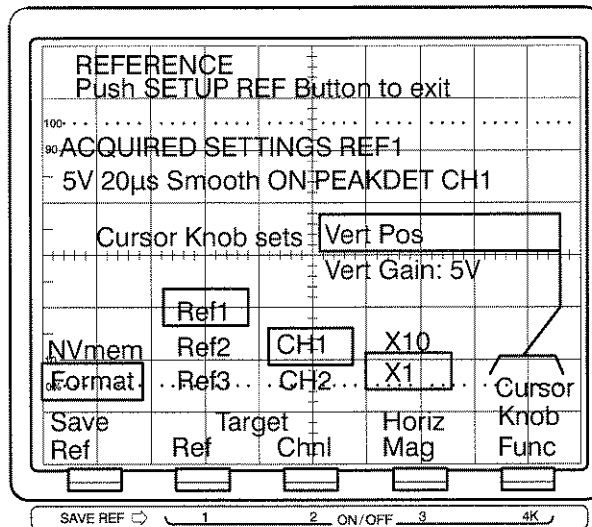

Figure 3-43: Format Reference Menu
- Step 2:** Press the left **Save Ref** menu to indicate **Format**. The **Format Reference Menu** appears (Figure 3-43).